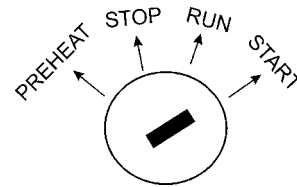

Figure 43. Starter Switch (Start)
8. Once the preheat indicator lights, turn the key to 'START' (Figure 43). After the engine cranks, release the key to 'RUN'.